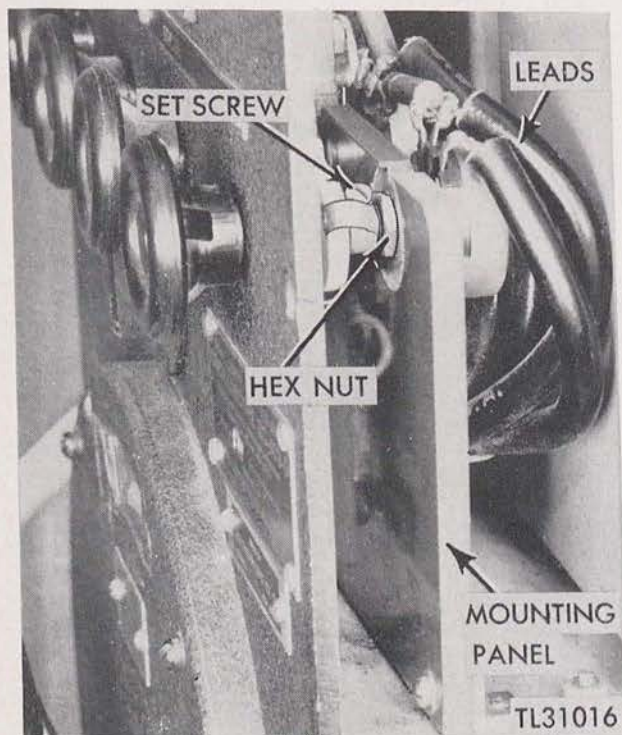

Figure 131. Oscilloscope BC-403-E, showing location of Potentiometers 50, 51, and 52 (1-2).
- (1) Remove and tag the leads from the terminals (fig. 131).
- (2) Loosen the setscrews on the shaft coupling.
- (3) Pull the control shaft through the front panel opening.
- (4) Loosen the hex. nut which holds the potentiometer to the mounting panel.
- (5) Remove the potentiometer.
- (6) Slide off the coupling from the potentiometer.